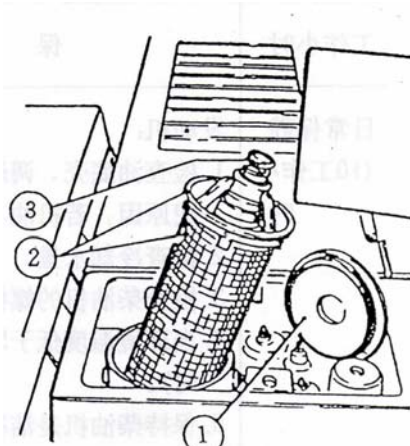
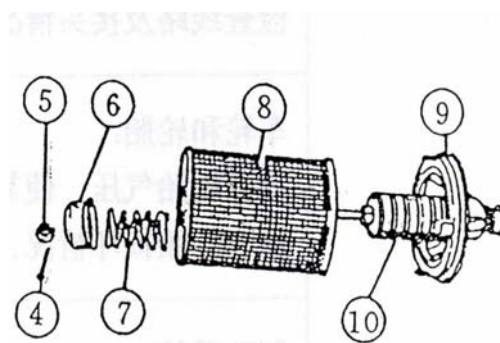

Fig. 39
Fig. 40
4. Remove complete filter element (Fig.39/2) and pressure cover (Fig.39/3);
5. Pull out the split pin (Fig.40/4) and unscrew the castle nut (Fig.40/5). Remove spring seat (Fig.40/6) and pressure spring (Fig.40/7) and filter element (Fig.40/8) from the base (Fig.40/9).
6. Clean magnet (Fig.40/10) and base (Fig.40/9);
Note: When assembling, use a new split pin (Fig.40/4).Renew seal ring of the filter holder, if necessary. When securing the new filter element, make sure that it suits flat against the filter holder. When replacing the complete filter into the tank, care must be taken that the seal rein god filter holder is not damaged. Screw in filter cover (Fig.39/1) carefully.